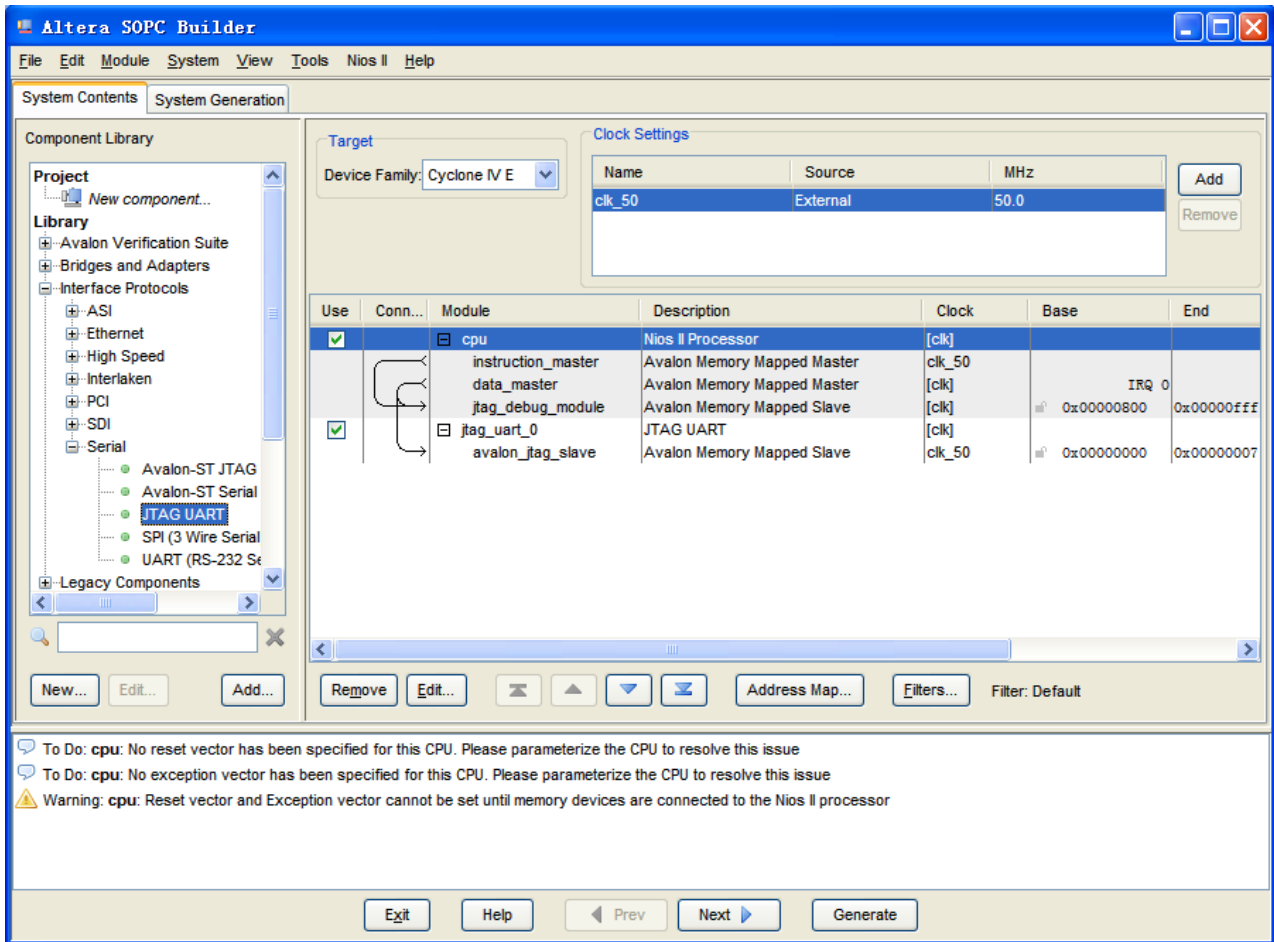

Figure 7-21 JTAG UART
12. We are going to use the default settings for this component, so click **Finish** to close the wizard and return to the window as shown in **Figure 7-21**.